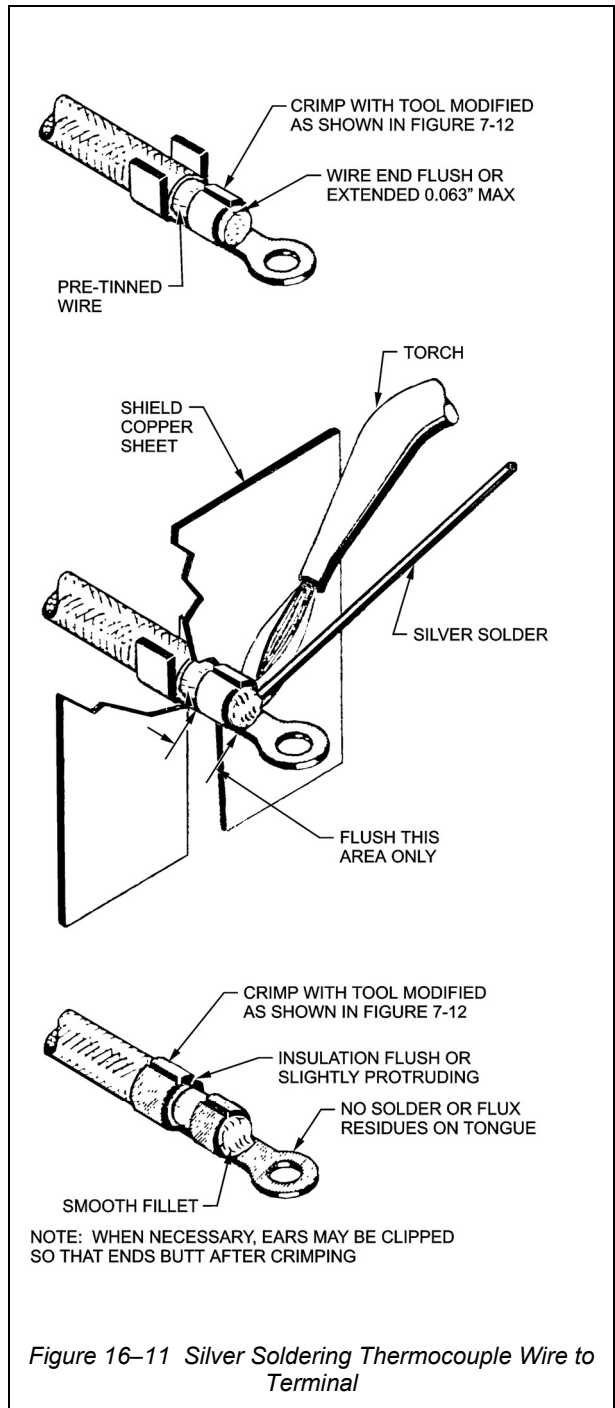
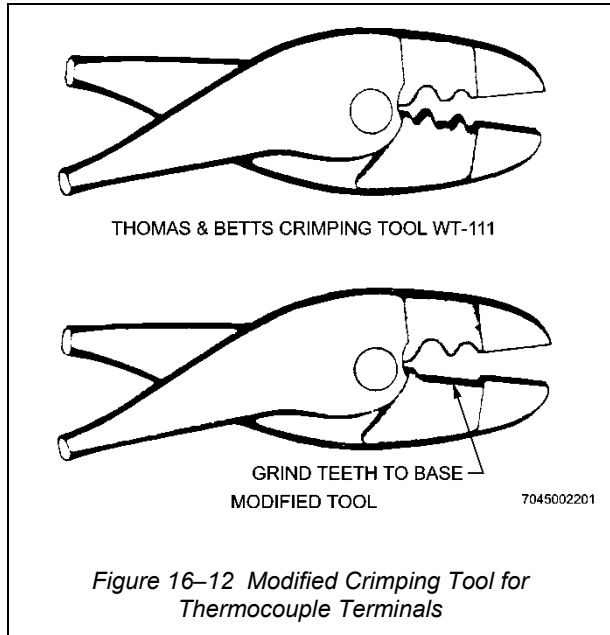

Figure 16-11 Silver Soldering Thermocouple Wire to Terminal
Figure 16-12 Modified Crimping Tool for Thermocouple Terminals
The tinned portion of the conductor should then be inside the wire grip. (See Figure 16-11.)
- c. Crimp wire grip over conductor using modified crimping tool illustrated in Figure 16-12.
18. Secure terminal to thermocouple wire as follows: (See Figure 16-11.)
- b. Secure insulation grip on insulation using modified crimping tool shown in Figure 16-12. The final result is shown in Figure 16-11.
- a. Install terminals on thermocouple wires as described in Para 17, and illustrated in Figure 16-11.
- d. Bend insulation grip ears around insulation using modified crimping tool shown in Figure 16-12. Trim ears so they butt flush around small wires. (See Figure 16-11.)